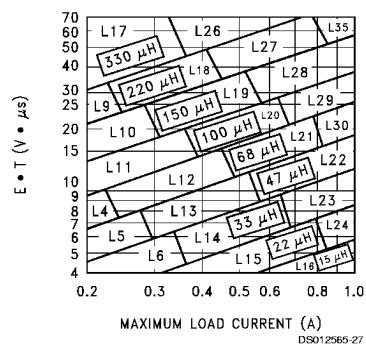

FIGURE 7. LM2595-ADJ
<p>2. Inductor Selection (L1)</p> <p>A. Calculate the inductor Volt • microsecond constant E • T (V • μs), from the following formula:</p> $E \cdot T = (V_{IN} - V_{OUT} - V_{SAT}) \cdot \frac{V_{OUT} + V_D}{V_{IN} - V_{SAT} + V_D} \cdot \frac{1000}{150 \text{ kHz}} (V \cdot \mu s)$ <p>where V_{SAT} = internal switch saturation voltage = 1V and V_D = diode forward voltage drop = 0.5V</p> <p>B. Use the E • T value from the previous formula and match it with the E • T number on the vertical axis of the Inductor Value Selection Guide shown in Figure 7.</p> <p>C. on the horizontal axis, select the maximum load current.</p> <p>D. Identify the inductance region intersected by the E • T value and the Maximum Load Current value. Each region is identified by an inductance value and an inductor code (LXX).</p> <p>E. Select an appropriate inductor from the four manufacturer's part numbers listed in Figure 8.</p> <p>3. Output Capacitor Selection (C_{OUT})</p> <p>A. In the majority of applications, low ESR electrolytic or solid tantalum capacitors between 47 μF and 330 μF provide the best results. This capacitor should be located close to the IC using short capacitor leads and short copper traces. Do not use capacitors larger than 330 μF. For additional information, see section on output capacitors in application information section.</p> <p>B. To simplify the capacitor selection procedure, refer to the quick design table shown in Figure 3. This table contains different output voltages, and lists various output capacitors that will provide the best design solutions.</p> <p>C. The capacitor voltage rating should be at least 1.5 times greater than the output voltage, and often much higher voltage ratings are needed to satisfy the low ESR requirements needed for low output ripple voltage.</p> <p>4. Feedforward Capacitor (C_{FF}) (See Figure 1)</p> <p>For output voltages greater than approximately 10V, an additional capacitor is required. The compensation capacitor is typically between 50 pF and 10 nF, and is wired in parallel with the output voltage setting resistor, R₂. It provides additional stability for high output voltages, low input-output voltages, and/or very low ESR output capacitors, such as solid tantalum capacitors.</p> $C_{FF} = \frac{1}{31 \times 10^3 \times R_2}$ <p>This capacitor type can be ceramic, plastic, silver mica, etc. (Because of the unstable characteristics of ceramic capacitors made with Z5U material, they are not recommended.)</p>	<p>2. Inductor Selection (L1)</p> <p>A. Calculate the inductor Volt • microsecond constant (E • T),</p> $E \cdot T = (28 - 20 - 1) \cdot \frac{20 + 0.5}{28 - 1 + 0.5} \cdot \frac{1000}{150} (V \cdot \mu s)$ $E \cdot T = (7) \cdot \frac{20.5}{27.5} \cdot 6.67 (V \cdot \mu s) = 34.8 (V \cdot \mu s)$ <p>B. E • T = 34.8 (V • μs)</p> <p>C. I_{LOAD(max)} = 1A</p> <p>D. From the inductor value selection guide shown in Figure 7, the inductance region intersected by the 35 (V • μs) horizontal line and the 1A vertical line is 100 μH, and the inductor code is L29.</p> <p>E. From the table in Figure 8, locate line L29, and select an inductor part number from the list of manufacturers part numbers.</p> <p>3. Output Capacitor Selection (C_{OUT})</p> <p>A. See section on C_{OUT} in Application Information section.</p> <p>B. From the quick design table shown in Figure 3, locate the output voltage column. From that column, locate the output voltage closest to the output voltage in your application. In this example, select the 24V line. Under the output capacitor section, select a capacitor from the list of through hole electrolytic or surface mount tantalum types from four different capacitor manufacturers. It is recommended that both the manufacturers and the manufacturers series that are listed in the table be used.</p> <p>In this example, through hole aluminum electrolytic capacitors from several different manufacturers are available.</p> <p>82 μF, 35V Panasonic HFQ Series 82 μF, 35V Nichicon PL Series</p> <p>C. For a 20V output, a capacitor rating of at least 30V or more is needed. In this example, either a 35V or 50V capacitor would work. A 35V rating was chosen, although a 50V rating could also be used if a lower output ripple voltage is needed.</p> <p>Other manufacturers or other types of capacitors may also be used, provided the capacitor specifications (especially the 100 kHz ESR) closely match the types listed in the table. Refer to the capacitor manufacturers data sheet for this information.</p> <p>4. Feedforward Capacitor (C_{FF})</p> <p>The table shown in Figure 3 contains feed forward capacitor values for various output voltages. In this example, a 1 nF capacitor is needed.</p>